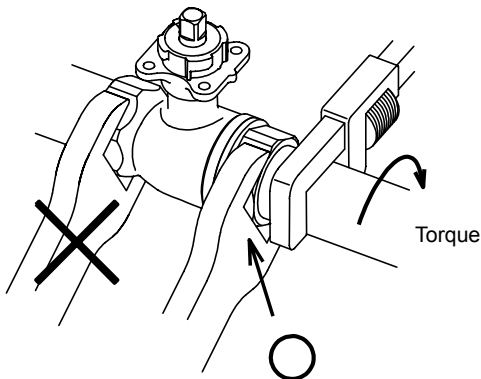

Figure 2. Piping
- 4) When connecting the valve to a pipe, hold the valve body with a tool such as a wrench, and screw the pipe into the valve. (See Fig. 2) Do not apply excessive torque to the pipe. Refer to Table 1 for the recommended torque.